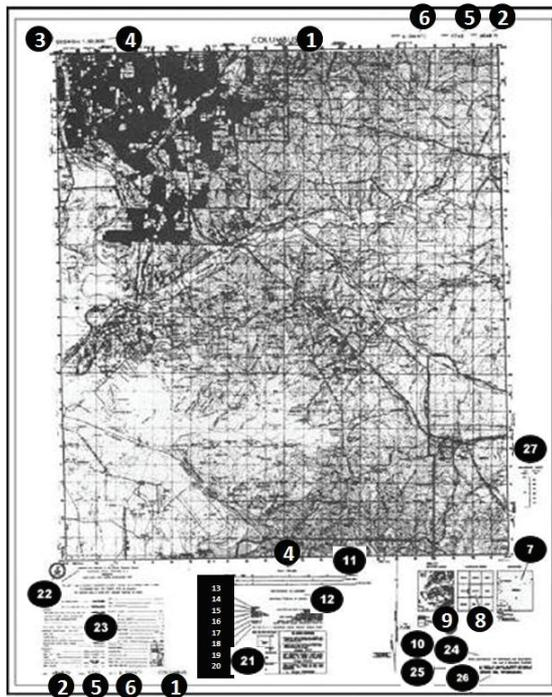

Figure 071-329-1000-3. Topographical map
3. Identify the marginal information (figure 071-329-1000-3).